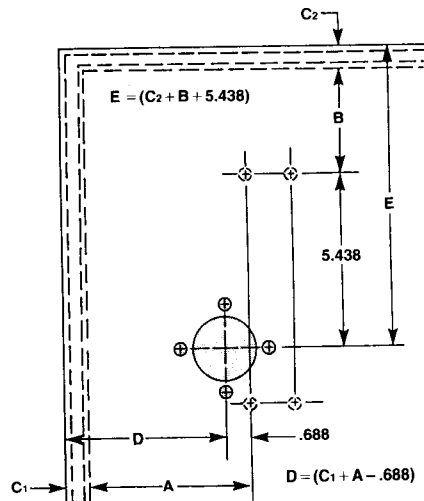

Fig. 2
- Measure distances "A" and "B" from mounting holes to walls of the enclosure. See Fig. 2.